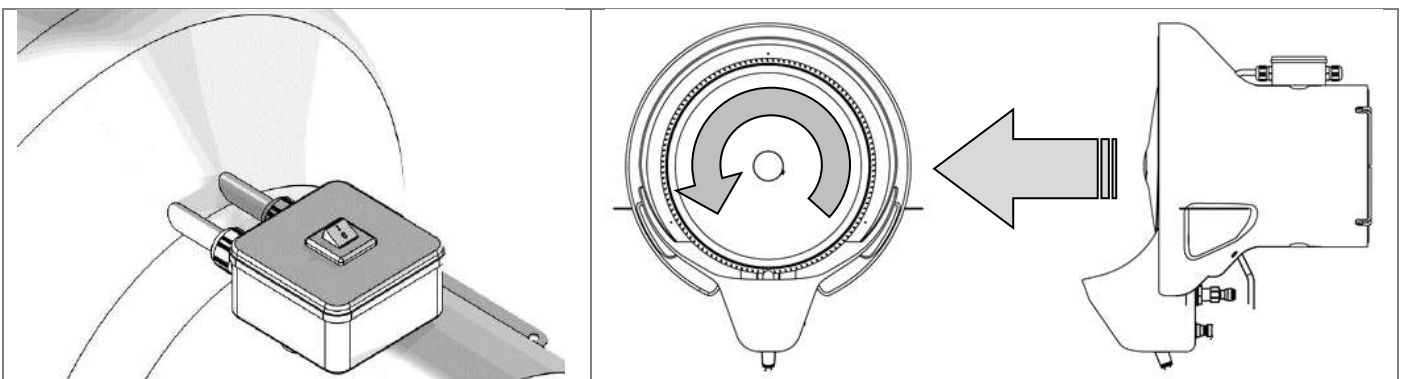

Fig. 3.2.1 Fig. 3.2.2
- Set the switch to I (ON) (Fig. 3.2.1)